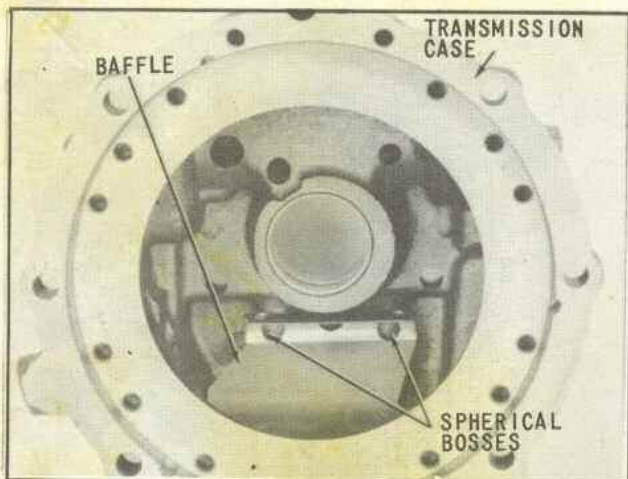

Fig. 107 Installing Baffle
2. Place the baffle inside the transmission case with the curved portion below the cast spherical bosses in the case as shown in (Fig. 107). Also refer to (Fig. 6) and (Fig. 7).
Snap the baffle into position by lifting up on the curved portion so that the two large holes are located firmly on the spherical bosses at the rear of the transmission case as shown in (Fig. 107).